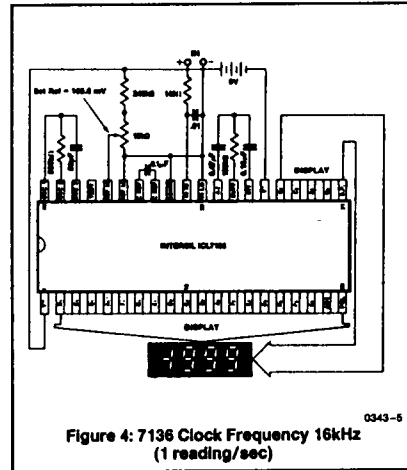

Figure 4: 7136 Clock Frequency 16kHz (1 reading/sec)
- NOTES: 3. Unless otherwise noted, specifications apply at $T_A = 25^\circ C$, $f_{clock} = 16kHz$ and are tested in the circuit of Figure 4.